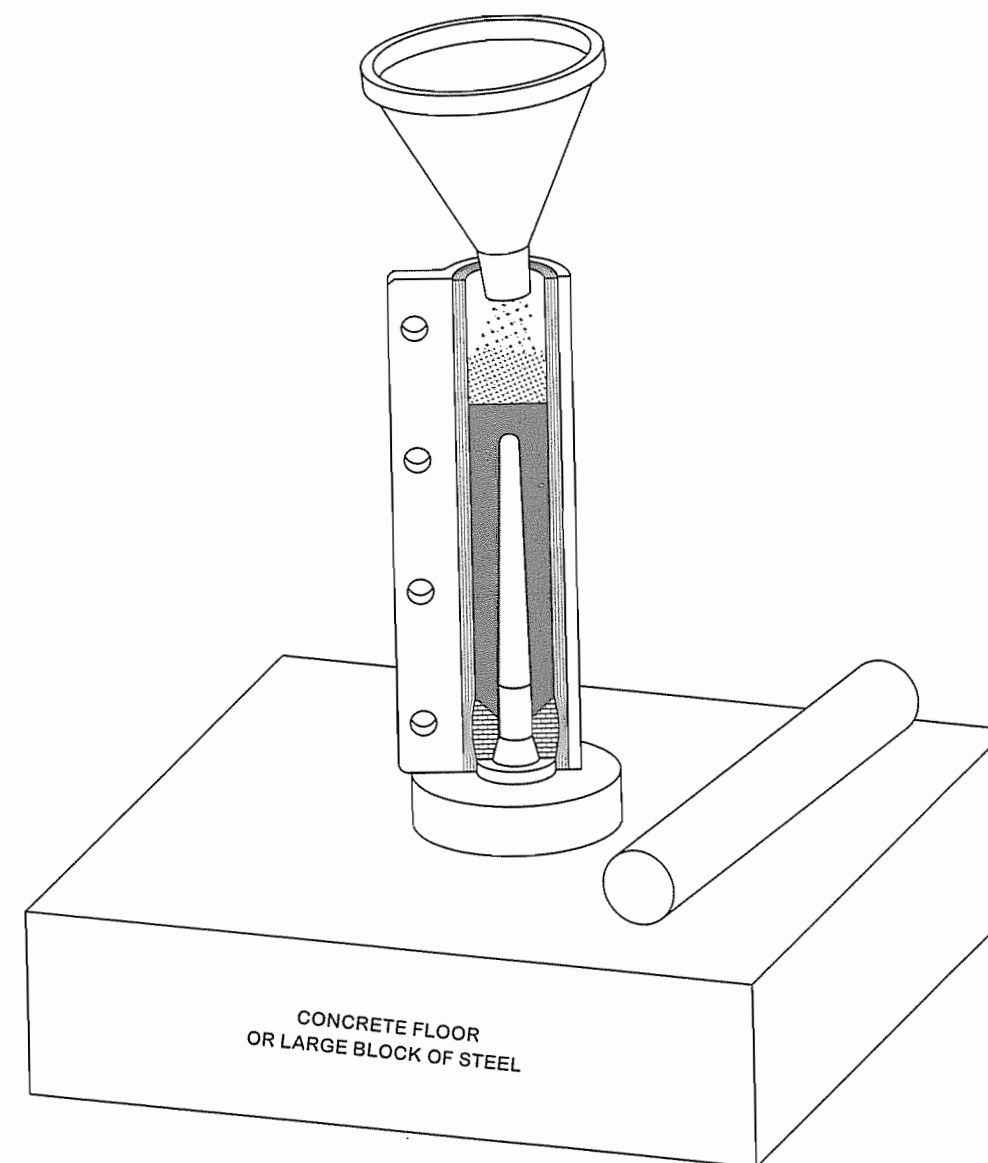

Figure 10-14. The time delay is poured into the casing on top of the propellant.
8. Select a *slow* burning propellant, and further retard its burn rate with baking soda. Calculate the amount needed to produce the desired delay time, and dampen it with the correct amount of solvent. With a flat-ended tamp, ram it into the front of the motor on top of the propellant grain (**Figures 10-14 and 10-15**).